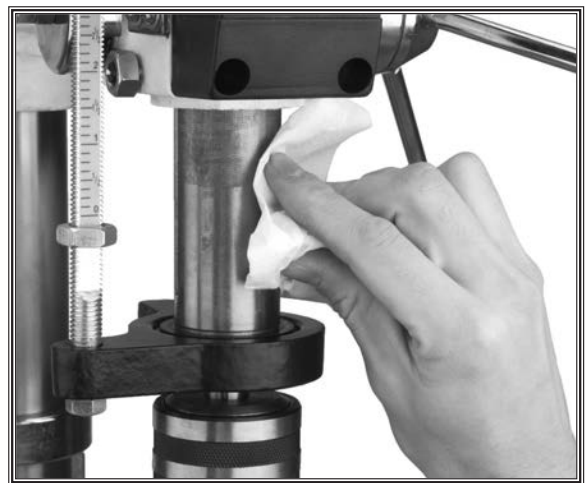

Figure 45. Clean and oil quill shaft.
2. Clean the quill shaft and lubricate it with a thin coat of light oil, so the quill travels freely (see Figure 45).